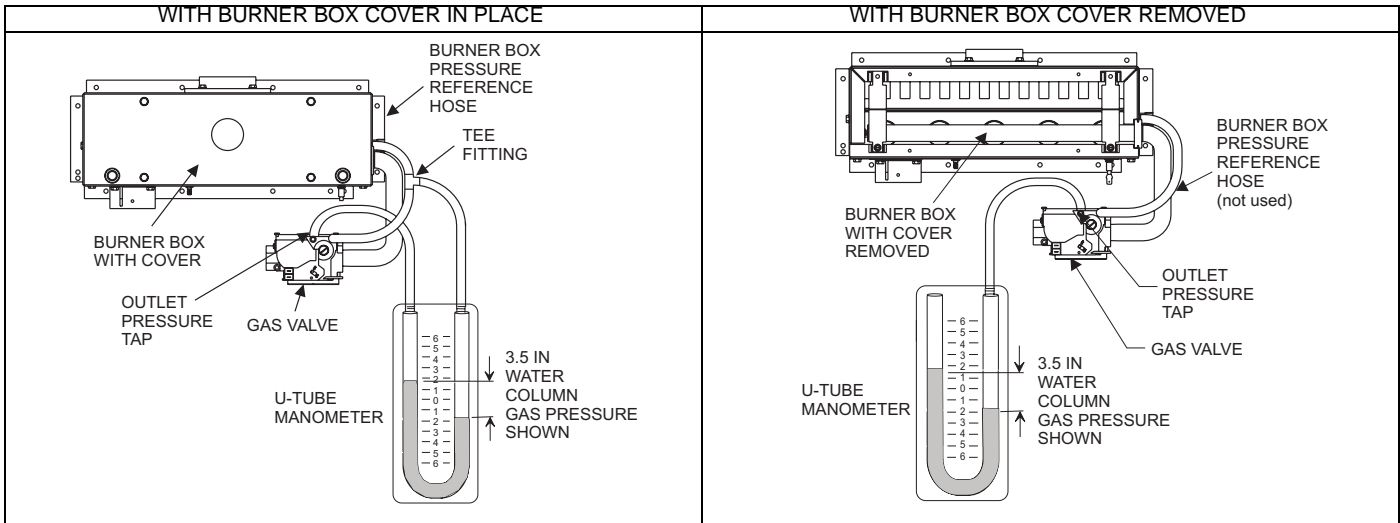

FIGURE 24: Reading Gas Pressure
- E. Use the 5/16" (7.94 mm x 1/8" (3.175 mm) reducing coupling and a 4" (101.6 mm) piece of 1/8" (3.175 mm) tubing to connect the positive side of the manometer to the gas valve pressure reference port. Refer to Figure 24 for connection details.
**Reading the gas pressure with the burner box cover removed -** Remove the screws securing the burner box front cover plate. Remove the cover. The gasket and may stick in place. Connect the positive side of the manometer to the gas valve as described in E above. There will be no second connection to the manometer, as it will reference atmospheric pressure. Refer to Figure 24 for connection details.